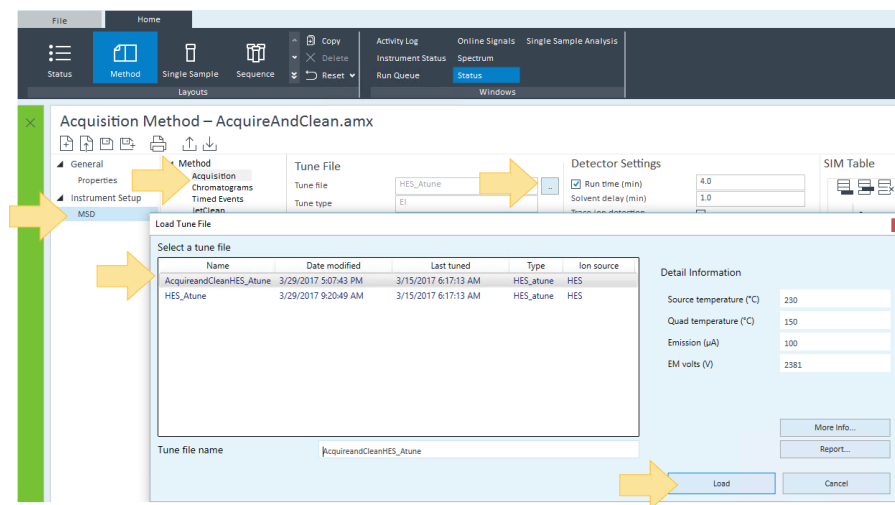
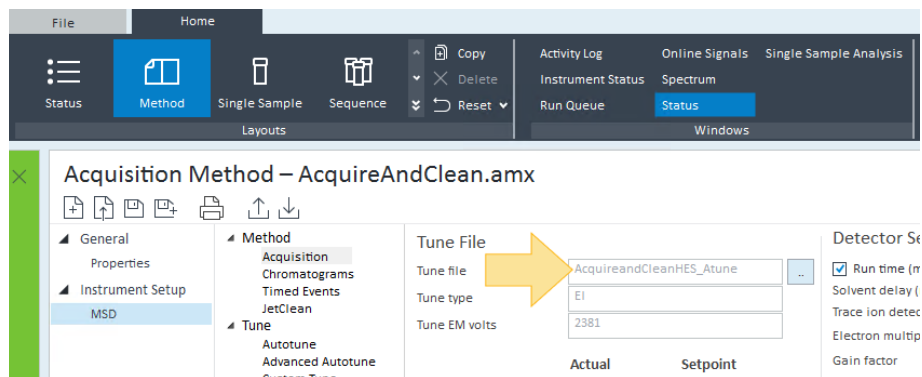

Figure 20. Select a Tune file to Load
Figure 21. Loaded Tune file
- a Select **MSD > Method > Acquisition**, click **Load a Tune File**  and select the tune file you created for this process. (**AcquireandCleanHES_Atune** for this example.) (See Figure 20 and Figure 21.)